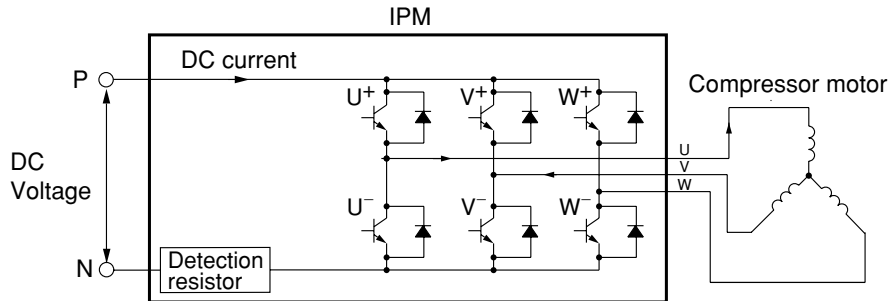

Fig. 6-6
- (1) Turns on the power module's U⁺ and V⁻ transistors so the current flows to the motor windings as shown in Fig. 6-6.
- (2) Varies the turn-ON time of the W⁺ transistor according to the DC voltage level and the start is controlled so the start current is approx. 10A .